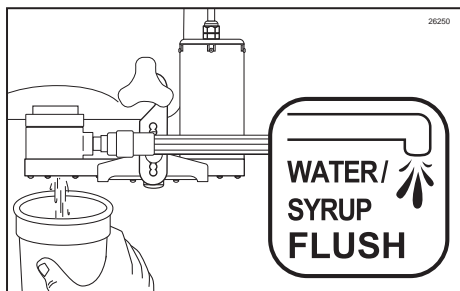

Figure 82
- When no additional syrup lines remain, press the WATER / SYRUP FLUSH key to clean the Injector Head to complete the procedure. (See Figure 82.)